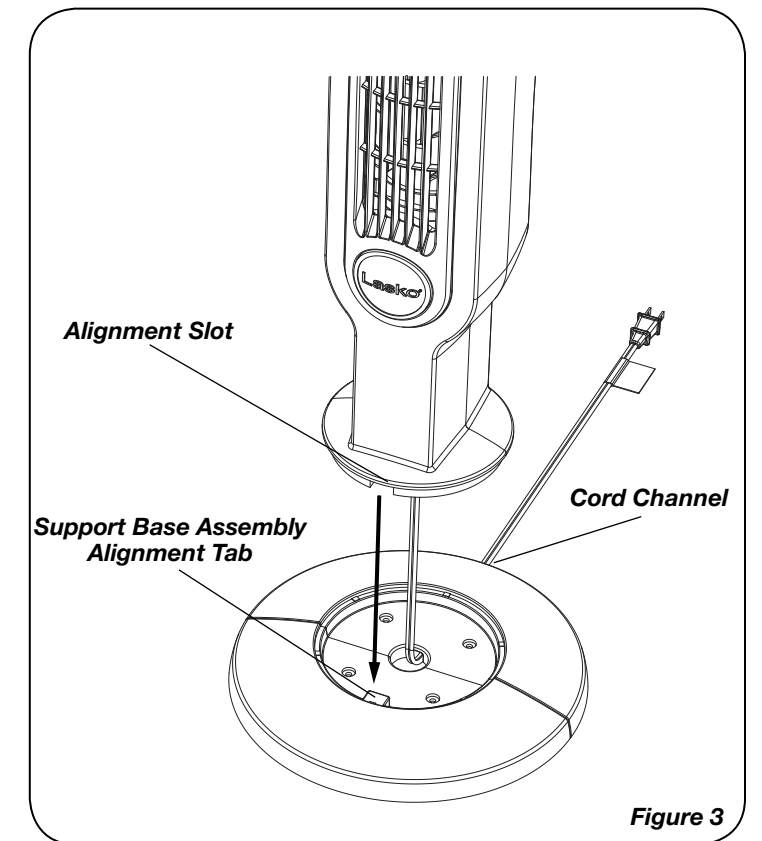

Figure 3
- Align the **Support Base Assembly Alignment Tabs** with the alignment slots on the bottom of the fan, noting that the cord channel on the bottom of the support base should be towards the back of the Fan. (**Figure 3**)